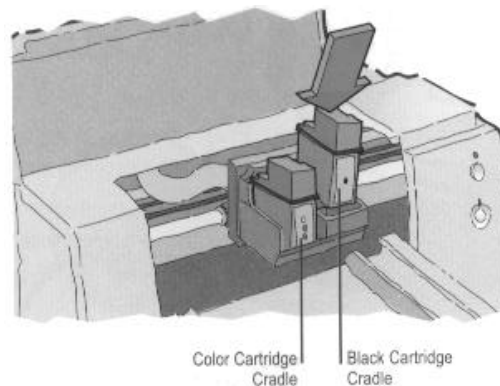

Figure 3, Printer Cartridge Installation
29. Referring to Figure 3, place the printer cartridges into their cradles. Push the Printer Cartridges back toward the printer to snap them into place.